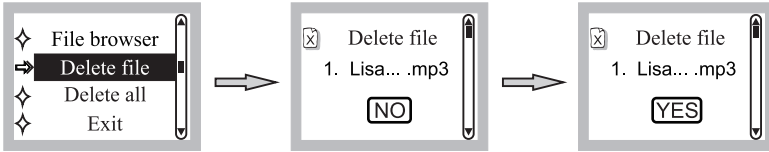

Fig. 25
- (2) Delete File: Press **▶||** to enter the “Delete file” screen. Press **◀◀** or **▶▶** to select “NO” or “YES”. Press **▶||** to confirm, Fig. 25.